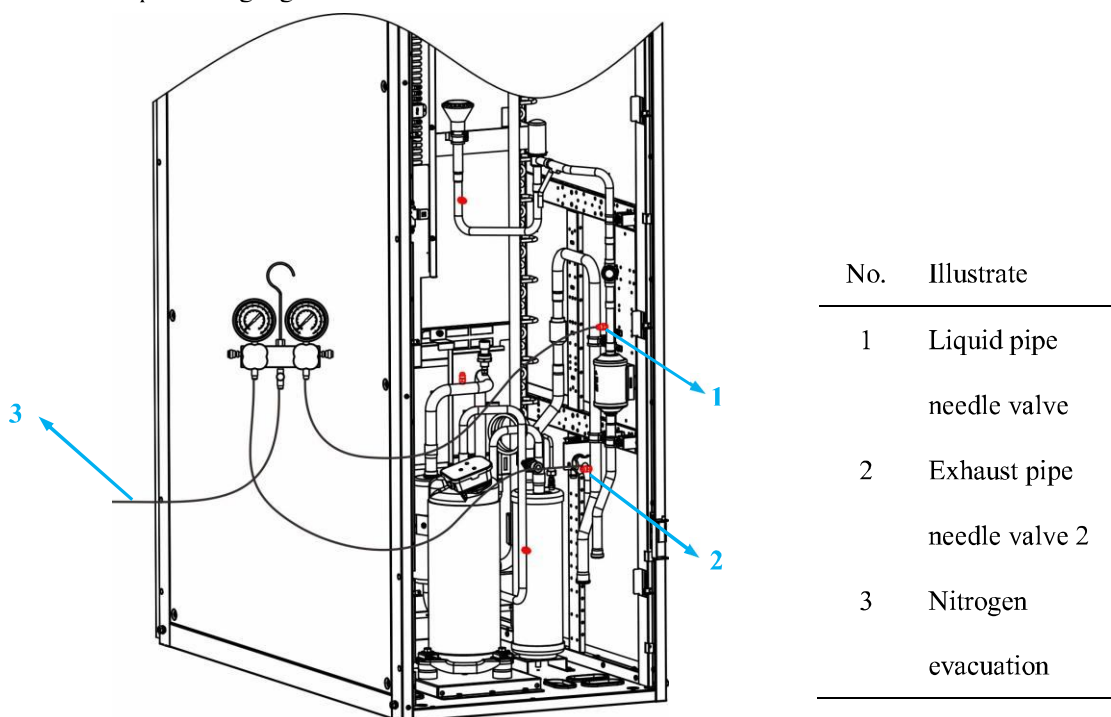

Figure 2-6 Schematic diagram of nitrogen exhaust
1. Remove the bonnet of the low pressure needle valve shown in Figure 2-6, and connect the needle valve with a hose with a pressure gauge.